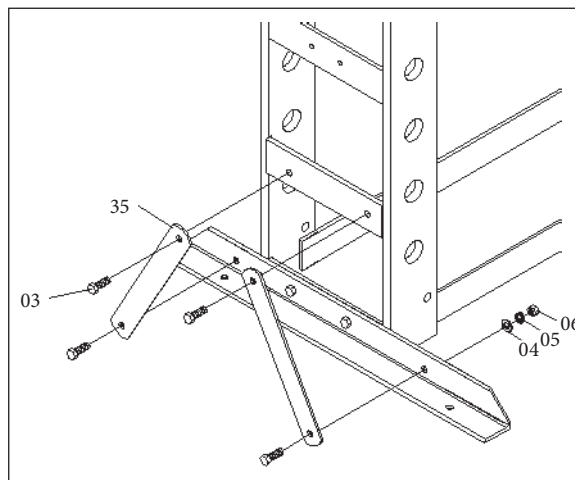

Fig. 2
- Fix the 4 pcs supports (35) to the body frame part B and C by using bolt M14*40 (03), washer 14 (04), lock washer 14 (05) and nut M14 (06) (refer to Fig. 2).